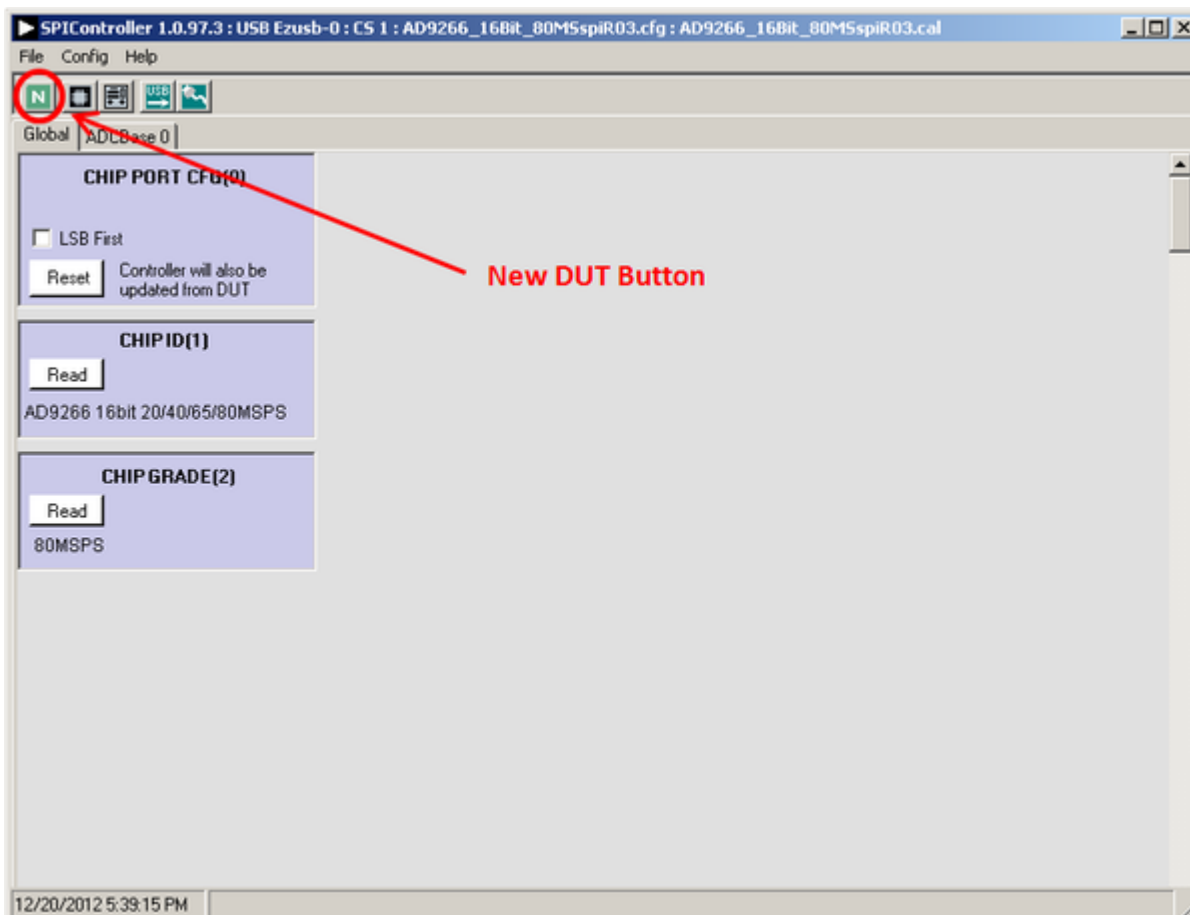

Figure 8.
2. Click the **New DUT** button in the **SPIController** window (see Figure 8).